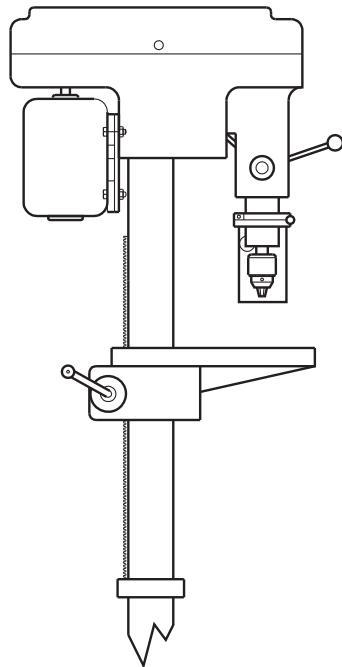

Fig. 2
- (c) Fig. 2 shows a pillar drill that can be used to produce holes.